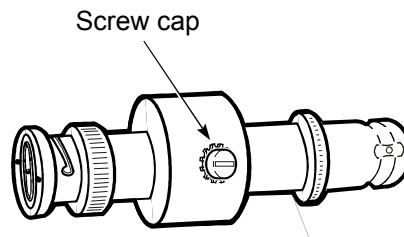

Figure 22 – Screw cap
3. Remove the screw cap (see *Figure 22*) and the gas discharge tube. Inspect the surge protector for damage. If there is damage, replace the surge protector and proceed to step 5; if not, proceed to